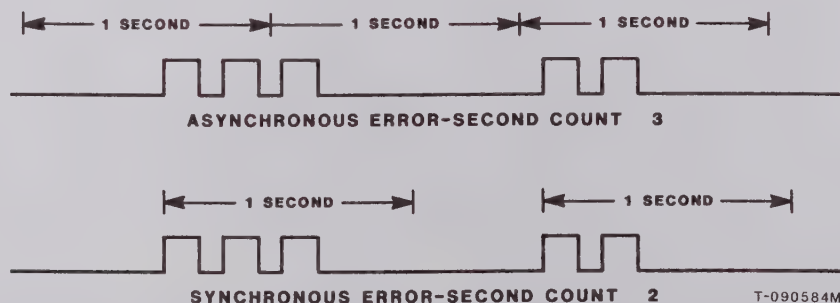

Fig. 19 - Synchronous and Asynchronous Error-Second Format
A.27 Two types of error-second measurements are in general use, synchronous and asynchronous (see Fig. 19).